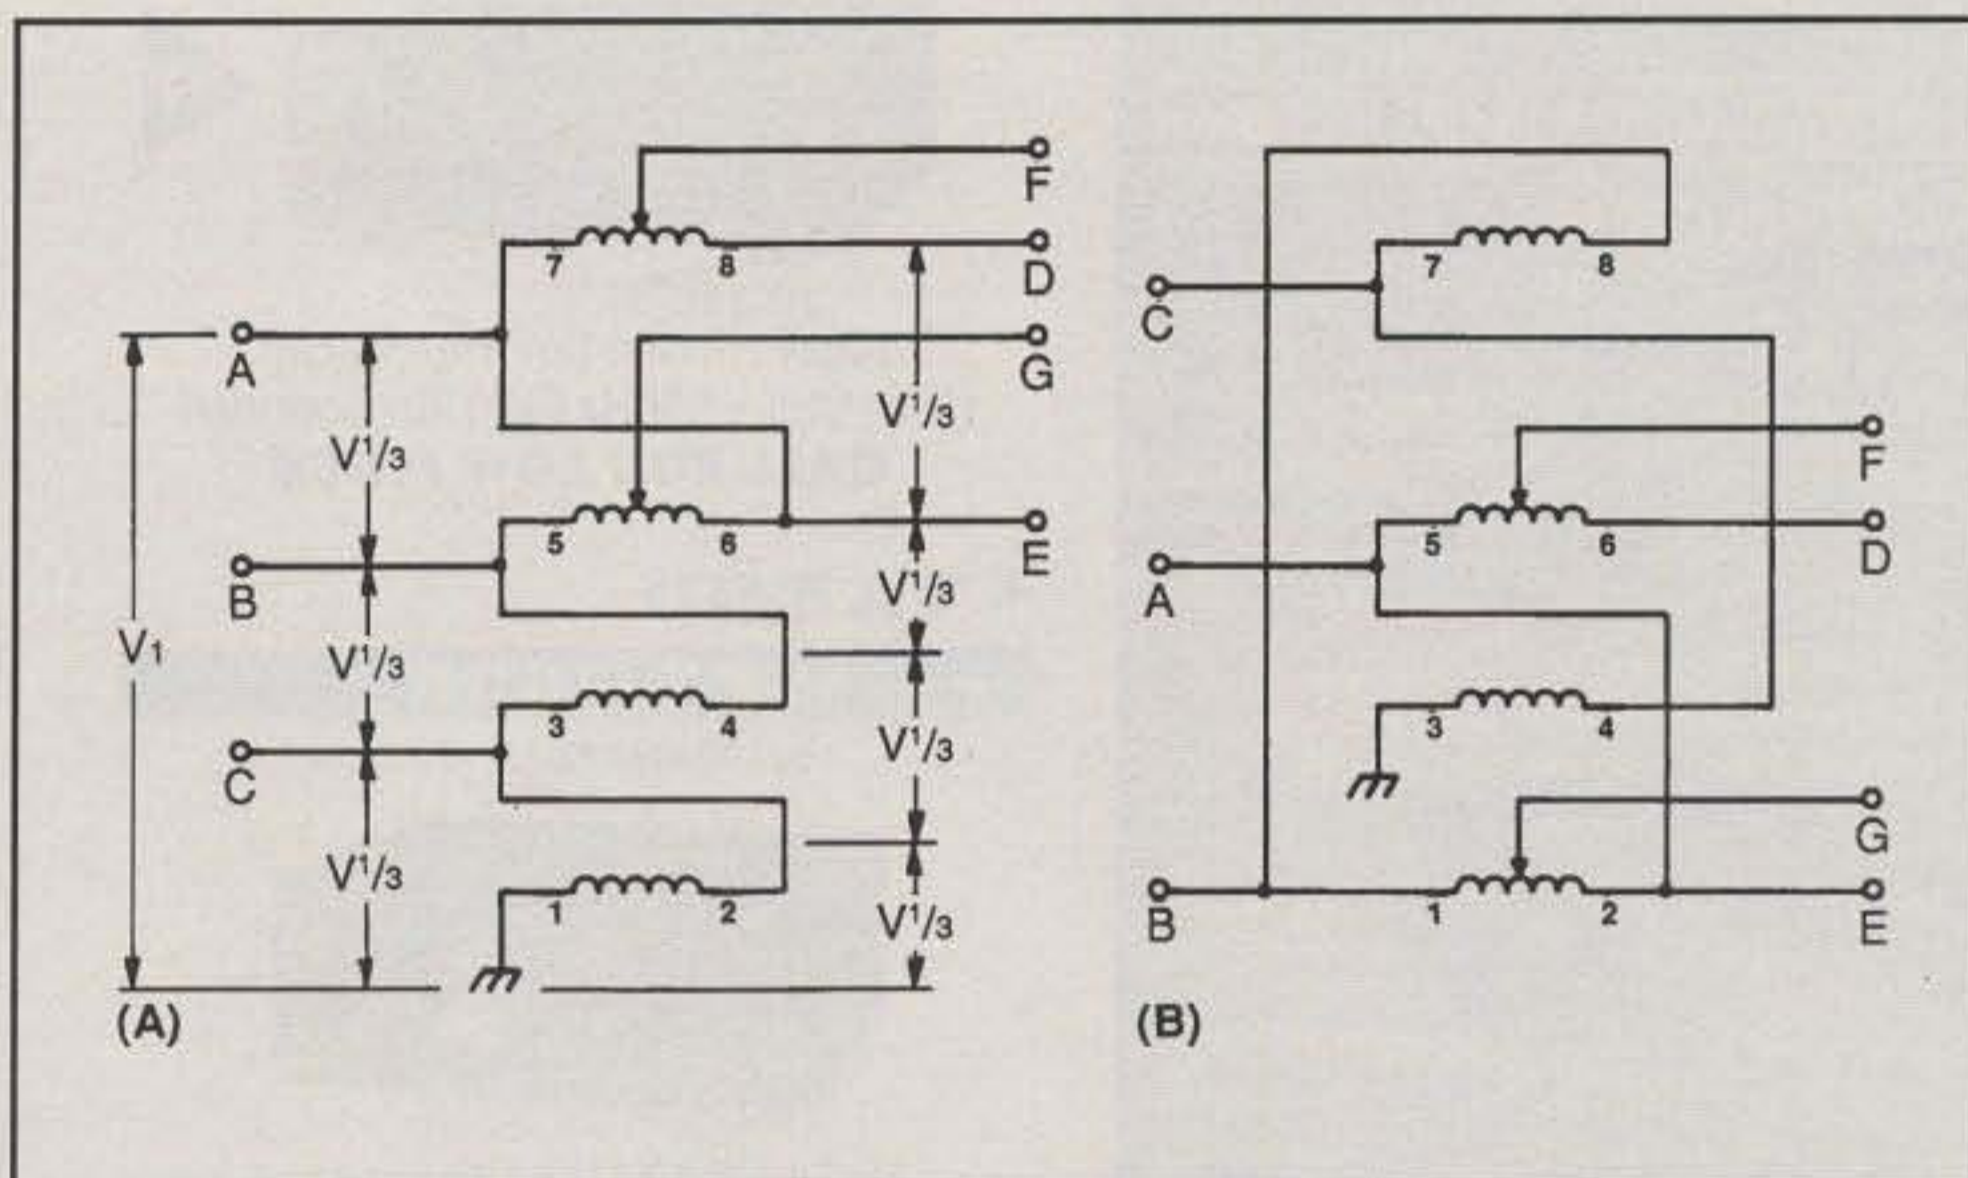

Fig. 1—Circuit diagrams for the 10-ratio unun: (A) diagram for analysis; (B) transposed windings for best overall performance.
Fig. 1(A) is presented here because it is the easiest form of a quadrifilar-wound unun to explain. With the input voltage, V_1 , connected to the various terminals on the left (the low-impedance side), and with very short transmission lines compared to the wavelength, we have the following transformation ratios:
After several attempts at rearranging the windings of fig. 1(A) for best overall performance (optimizing the effective characteristic impedances of the windings), fig. 1(B) evolved. Photo A shows the bottom view of an unmounted unun using the circuit of fig. 1(B). The top-left
The bottom-right lead is terminal C. Below these three leads is a ground connection (terminal 3 in fig. 1[B]) to the SO-239 connector. Photo B shows three different views of this high-power unit mounted in a 4"L x 2"W x 2.75"H CU-3015A minibox.
Photo C shows a low-power unit mounted in a home-made 2.25"L x 1.5"W x 2.25"H minibox. It has five quadrifilar turns of No. 16 H Thermaleze wire on a 1.25 inch OD ferrite toroid with a permeability of 250. The tap on winding 5-6 (fig. 1[B]) is at three turns from terminal 5, and on winding 1-2 it is three turns from terminal 1. Since the number of turns is different from the high-power unit, so are the ratios which use the taps. In this case they are a little larger. Specifically, the tapped ratios are now as follows: 1:12.96, 1:6.76, 1:3.24, 1:1.69, and 1:1.44. If the taps were at two turns from terminals 5 and 1, the ratios would be a little less than those of the high-power unit. You can play with the equations in the first section in this article and arrive at many different ratios.
Since this unun has shorter transmission lines than its high-power counterpart, the deviations of the ratios across the HF band are generally less. Also, if winding 3-4 (in fig. 1[B]) were replaced with No. 14 H Thermaleze wire, this low-power unit could well be rated at 500 watts of continuous power for all ratios!